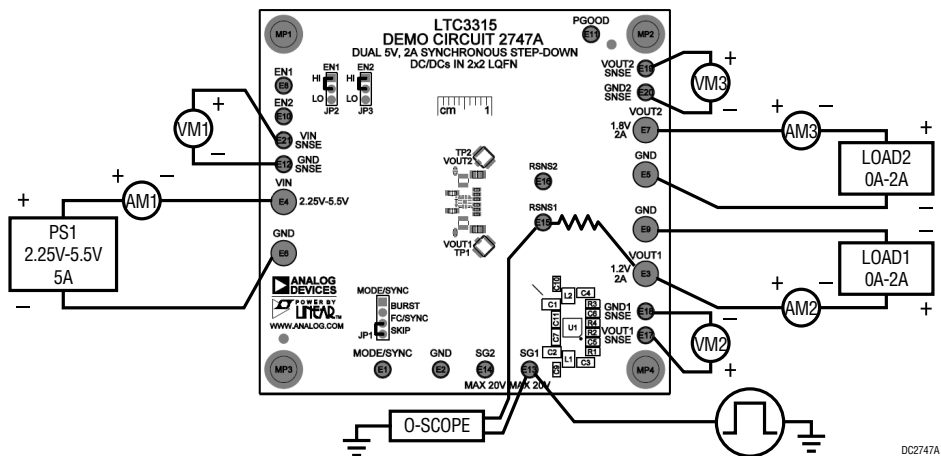
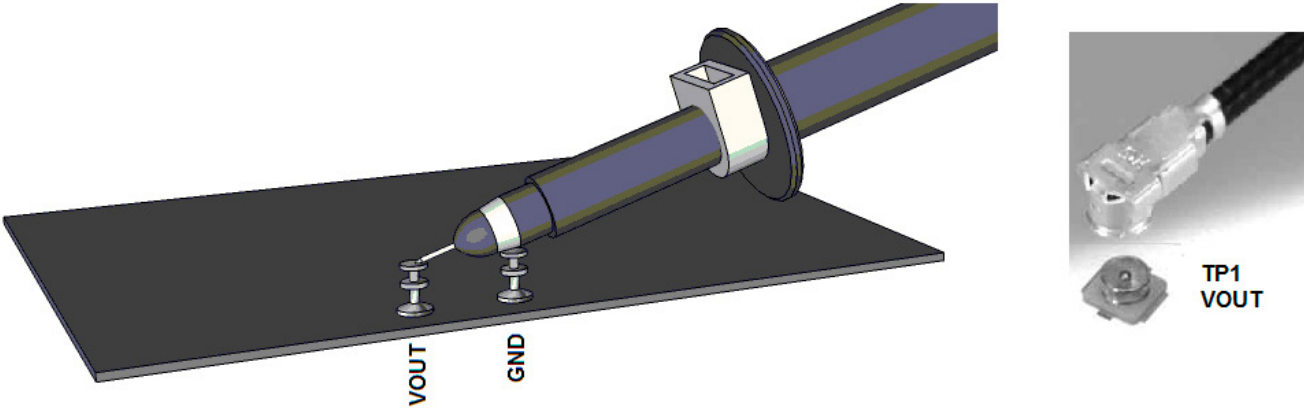

Figure 1. Proper Measurement Equipment Setup
Figure 2. Measuring Input or Output Ripple
The DC2747A is easy to set up to evaluate the performance of the LTC3315A. Refer to Figure 1 and Figure 2 for proper measurement equipment setup and follow the evaluation procedure below.
NOTE: For accurate V_{IN} , V_{OUT} and efficiency measurements, measure V_{IN} at the V_{IN} SNSE and GND SNSE turrets and V_{OUT} at the V_{OUT} SNSE and GND SNSE turrets as illustrated as VM1, VM2 and VM3 in Figure 1. When measuring the input or output voltage ripple, care must be taken to avoid a long ground lead on the oscilloscope probe.
3. With power off, connect 0V to 6V, 5A power supply, PS1, between V_{IN} and GND with a series ammeter and a voltmeter as shown in Figure 1.
5. With power off, connect a 0A to 2A load to V_{OUT1} and GND with a series ammeter and a voltmeter as shown in Figure 1.
6. Turn on LOAD1 and slowly increase from 0A to 2A and observe the output voltage. The output ripple may also be observed using an oscilloscope with the probe connected as shown in Figure 2.
NOTE: Measure the output voltage ripple by touching the probe tip directly across the output turrets or to TP1 as shown in Figure 2. TP1 is designed for a 50 Ω coax cable to reduce any high frequency noise that might couple into the oscilloscope probes.
8. With power off, connect a second 0A to 2A load to V_{OUT2} and GND with a series ammeter and a voltmeter as shown in Figure 1.
9. Turn on LOAD2 and slowly increase the from 0A to 2A and observe the output voltage. The output ripple may also be observed using an oscilloscope with the probe connected as shown in Figure 2.
15. To test the transient response with a base load, turn off LOADx (LOAD1 or LOAD2) and add the desired resistor to produce a minimum load between V_{OUTx} and RSNSx turrets (RL shown on Figure 1). Note that the total load resistance will be RL plus RSNSx (100m Ω).